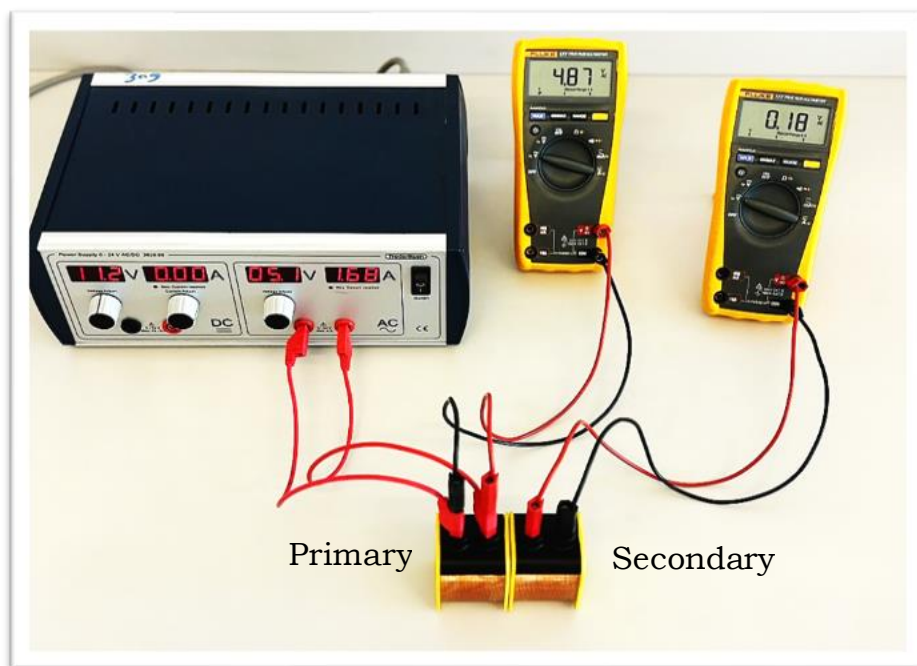

Fig. 2: Setup to check best core configuration
- 1- Set up the two coils labeled 400 as shown in **Fig.2** (no core is used).